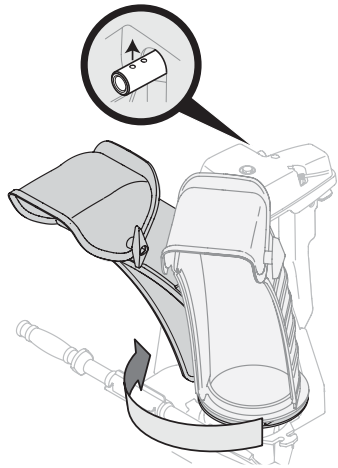

Figure 3-5
4. Squeeze the trigger on the joystick, rotate the chute assembly by hand to face forward. The holes in the chute rotation assembly should be facing up. See Figure 3-5.